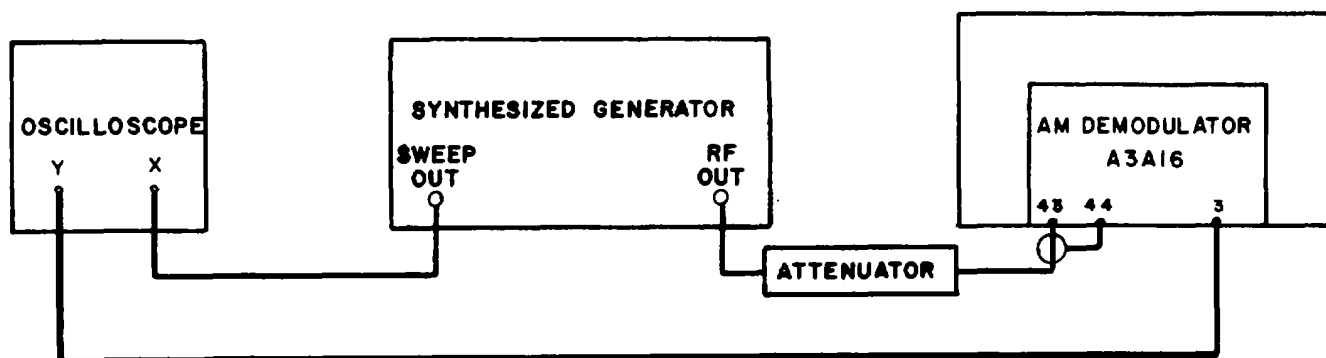

Figure 4-22. AM Demodulator Alignment, Equipment Connections
2. Connect the test equipment as illustrated in **Figure 4-22**.